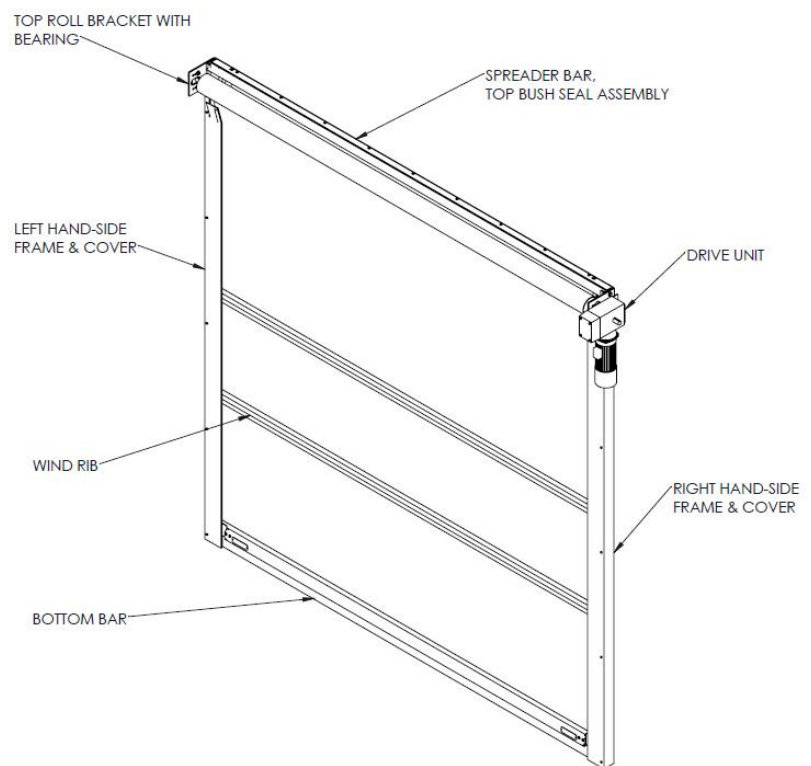

Figure 1
2. Place two soft weight approved slings around the top roll assembly and lift top roll assembly from the crate with an approved fork lift of equivalent lifting device (REF. Figure 1).